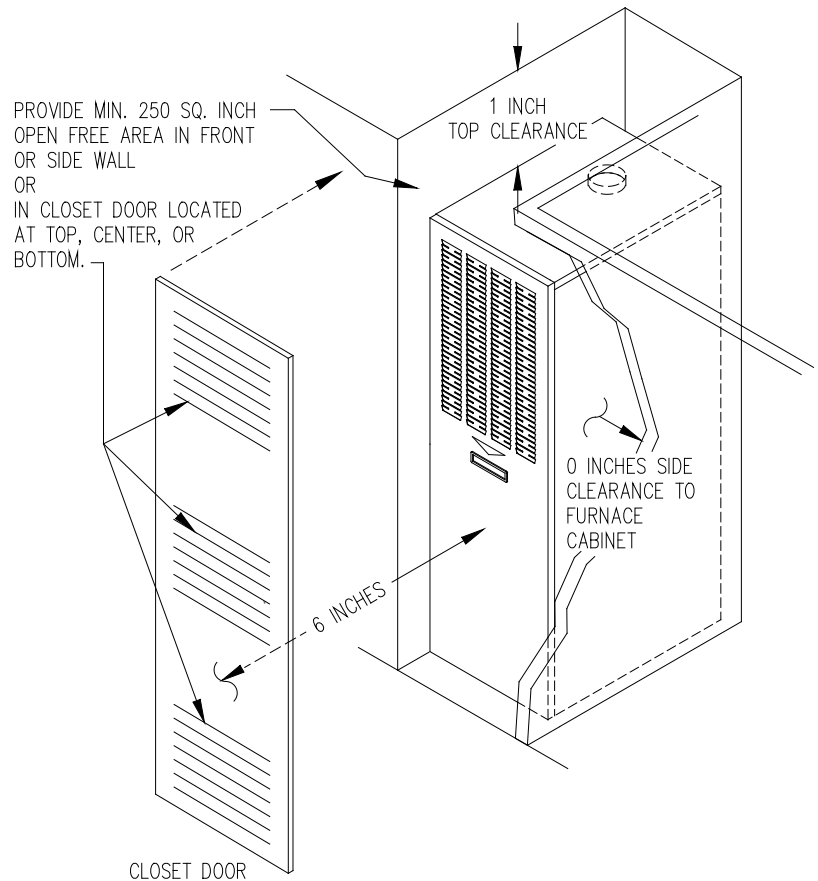

Figure 5
1. The return air opening into the closet is to have a minimum free area of 250 square inches, (refer to Figure 5).